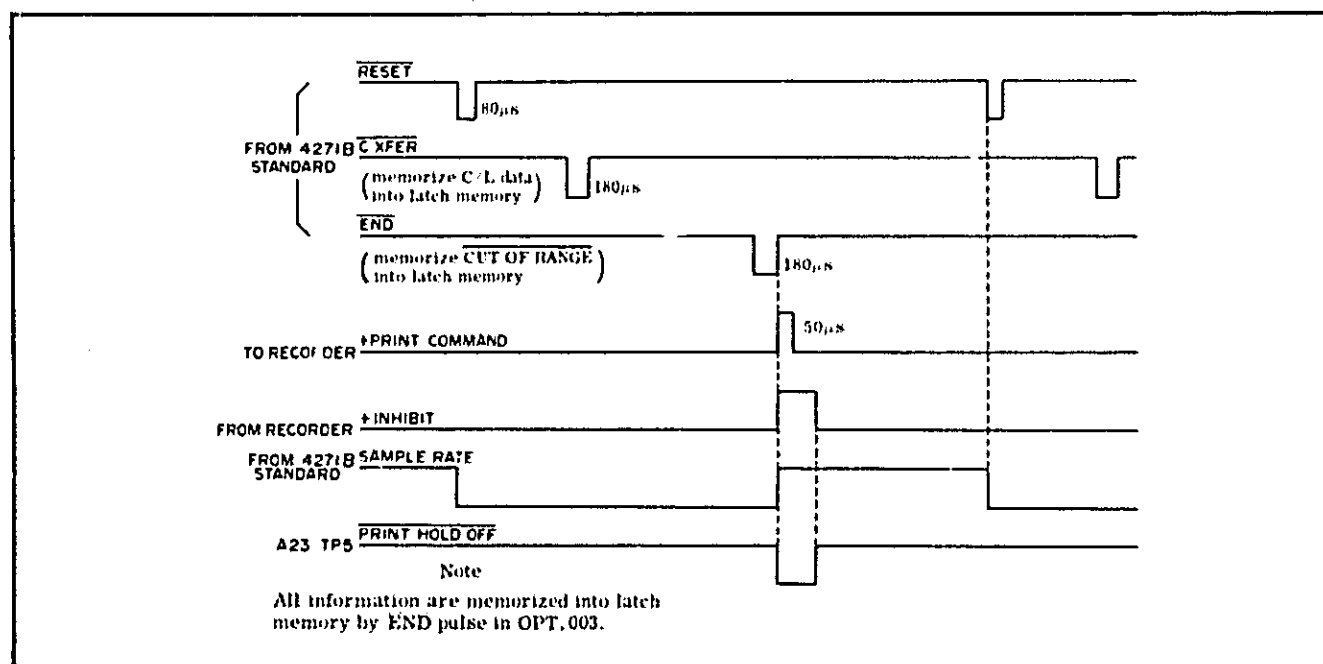

Figure 3-13. Timing Diagram (OPT. 002/003).
- e. Figure 3-13 is a timing diagram for option 002 and recorder.
- The timing sequence for OPT. 003 is the same as OPT. 002 except all data is stored in latch memory with END signal. See Figure 3-13.